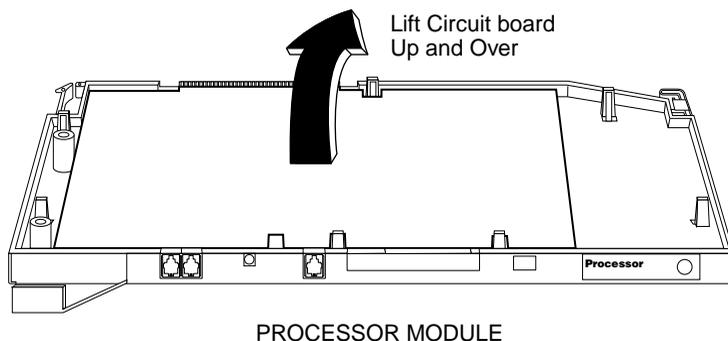

Figure 9-6. Removing the Processor Module Circuit Board
- ▶ 6. Holding the processor circuit board at each end, lift it up and turn it over and away from you. Figure 9-6 on page 9-16.